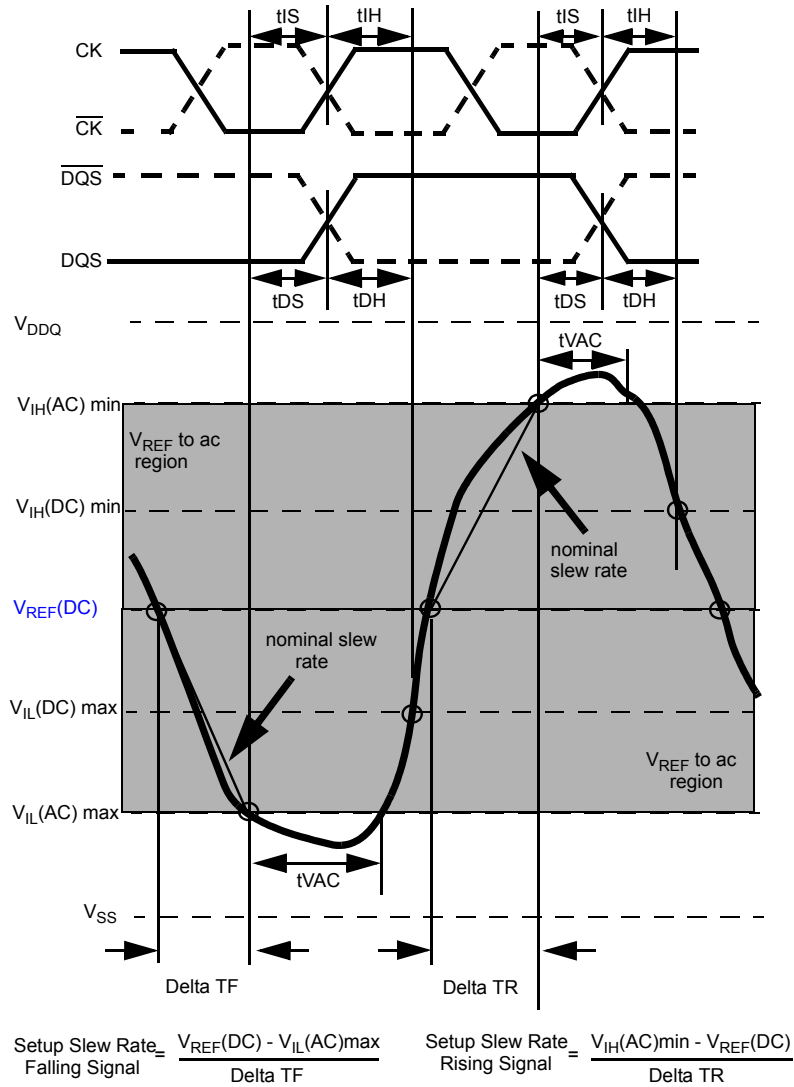

Figure 25 - Illustration of nominal slew rate and tVAC for setup time tDS (for DQ with respect to strobe) and tIS (for ADD/CMD with respect to clock).
Setup (tDS) nominal slew rate for a falling signal is defined as the slew rate between the last crossing of V_{REF}(DC) and the first crossing of V_{IL}(AC)max (see Figure 25). If the actual signal is always earlier than the nominal slew rate line between shaded 'V_{REF}(DC) to ac region', use nominal slew rate for derating value. If the actual signal is later than the nominal slew rate line anywhere